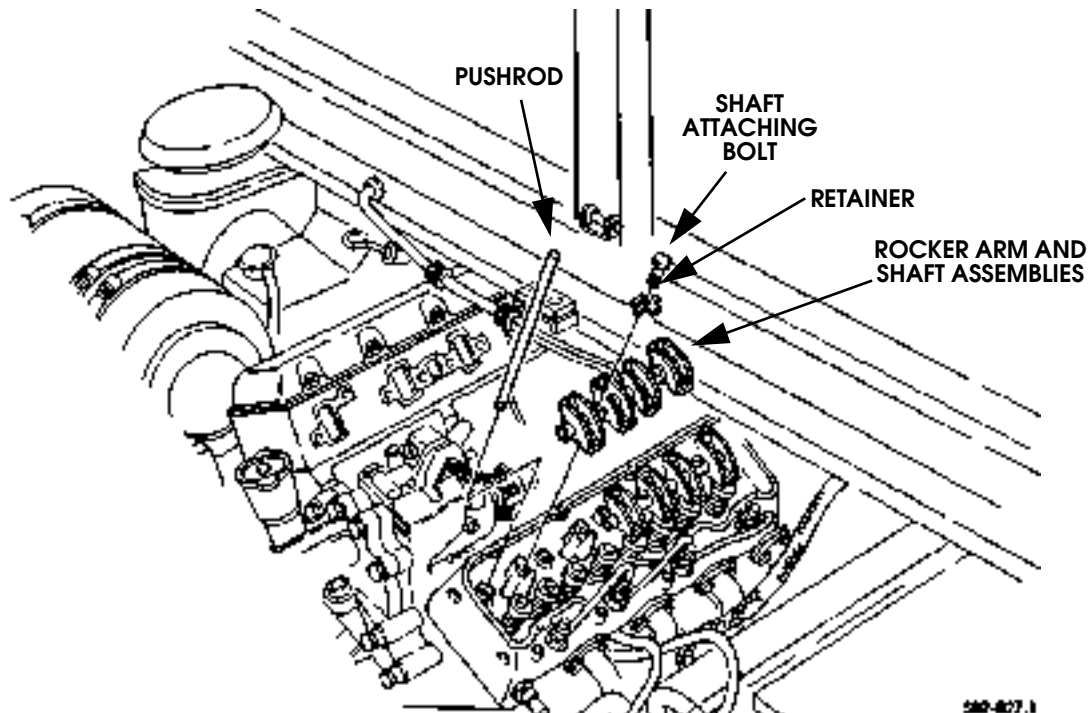

Figure 2-36: Rocker Arm Shafts and Pushrods
2. Remove bolts and retainers that attach rocker arm shafts to cylinder head (Figure 2-36). Note position of bolts for installation reference. Bolts must be reinstalled in same threaded holes.
3. Lift and remove each rocker arm and shaft assembly (Figure 2-36). Do not intermix assemblies if they will be reused. Each assembly must be reinstalled in same position.
5. Align and install rocker arm and shaft assemblies (Figure 2-36). Be very sure pushrods are seated in lifters and in rocker arms.